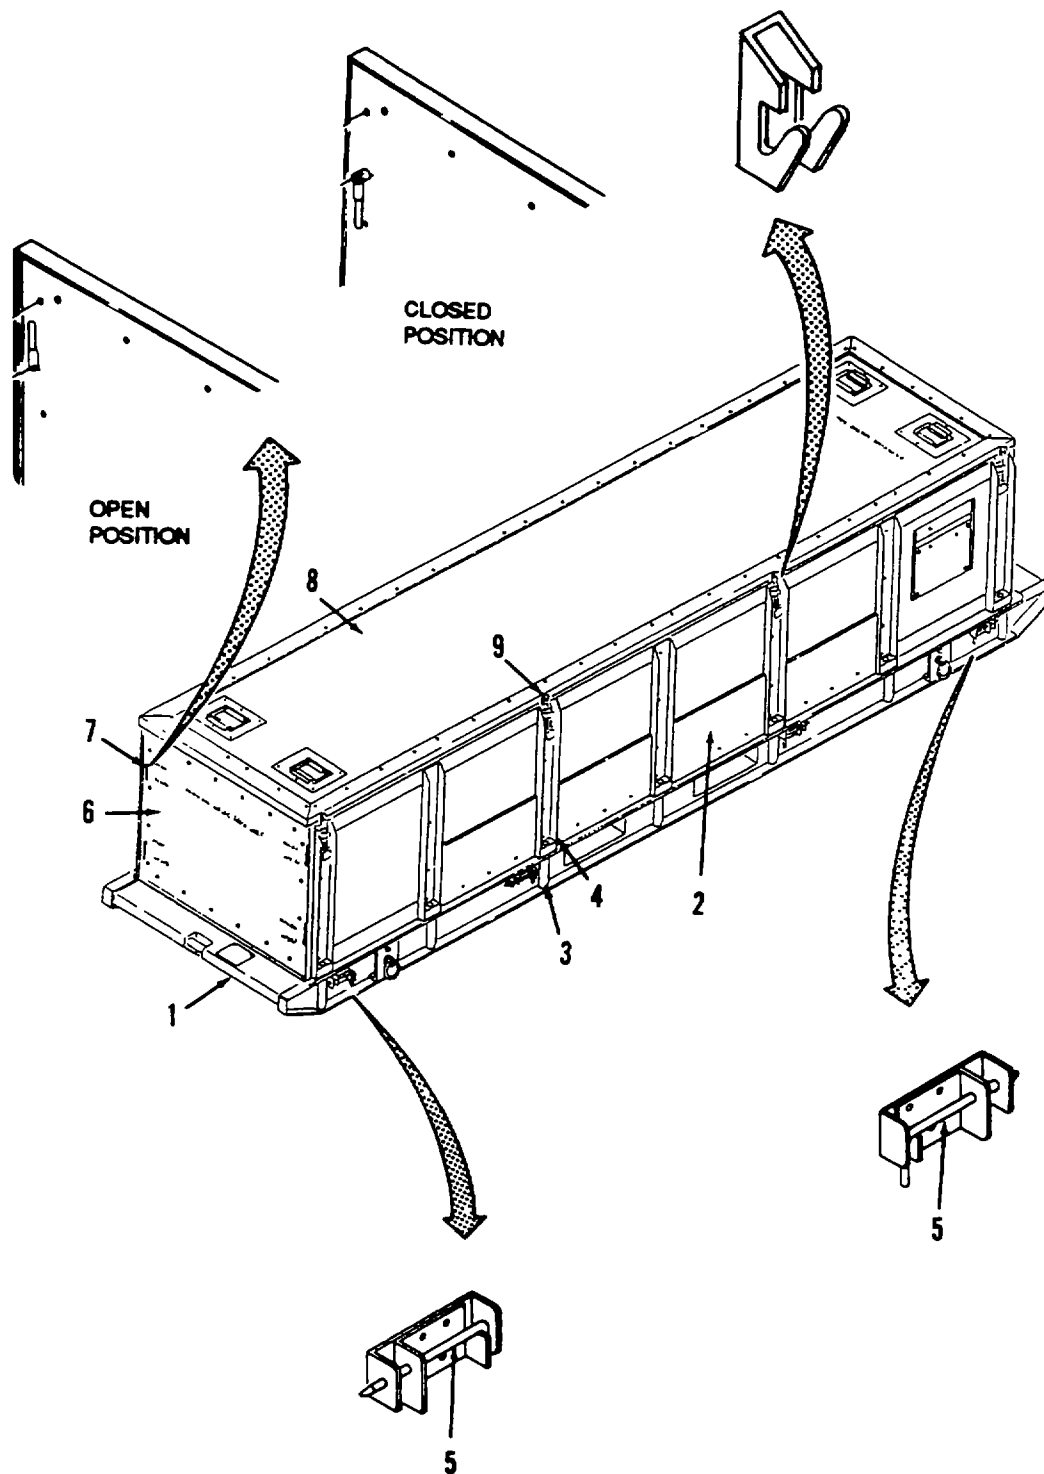

Figure 2-3. Assembly and Preparation for Use.
2-6. ASSEMBLY AND PREPARATION FOR USE. This paragraph shows how to assemble the WTSC and prepare it for use. The steps provided and the illustrations shown are for a typical set up of the WTSC. Always be sure that you follow your local operating procedures first if there is a conflict. The WTSC is ready for use when it has been removed from its shipping and packing material. In the event that the WTSC has been sent to you in an unassembled state, use the following procedures to assemble the WTSC for use (Refer to Figure 2-3.)
- (1) Perform all before Operator PMCS listed in Table 2-1.
- (2) (Refer to Figure 2-3.) Disengage the latching devices (9) on the side panel assembly channel latches and remove the top cover assembly (8).
- (3) Engage one end of each of the four tie-down straps into the tie-down rods located in the floor of one side of the skid assembly (1) and drape the other end of the straps over the top of the side panel assemblies (2).
(5) (Refer to Figure 2-3.) Attach the loose ends of the tie-down straps onto the remaining tie-down rods located on the floor of the skid assembly (1).
(6) Place the top cover (8) onto the top of the side panel assemblies (2) and the end panels (6). Be sure that the strike catches on the top cover align with the latching devices (9) on the side panel channel assemblies that have latches.
(7) Lift the handles of the channel assembly latching devices (9) to engage the bolt of the latching devices with the strike catches on the top cover (8). Pull the handles of the latching devices over and down until the handles are vertical and the latch snaps into place securing the top cover to the side panel assemblies (2).